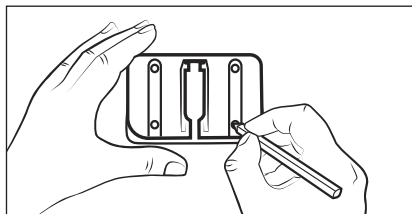

Fig. 5
- 3) Use the wall bracket **18** to mark the four drill holes on the wall (see Fig. 5).